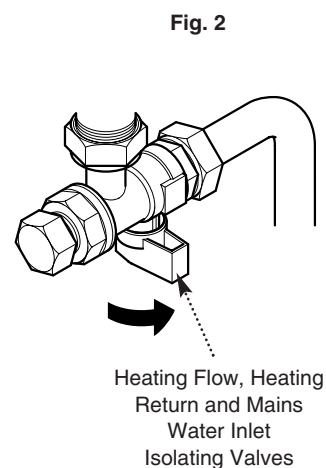

Fig. 2
3. The isolating valves are positioned under the boiler and can be closed by turning their taps to the right towards the wall (Fig. 2).